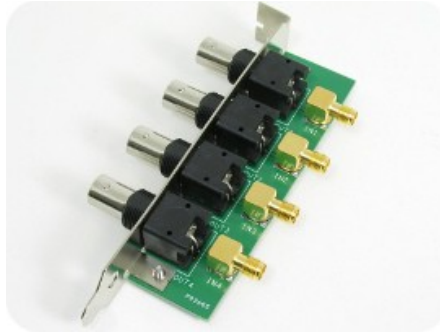

Figure 24: SMA-BNC Adapter Board is available for the SP18A board to access additional flag bits.
4. The SMA-BNC Adapter Board, shown in Figure 24, provides easy access to four additional output signals from the back panel of your computer. SMA-SMA cables are available from SpinCore upon request. For ordering information, please visit <http://spincore.com/products/Adapters/> or contact SpinCore at <http://www.spincore.com/contact.shtml>.